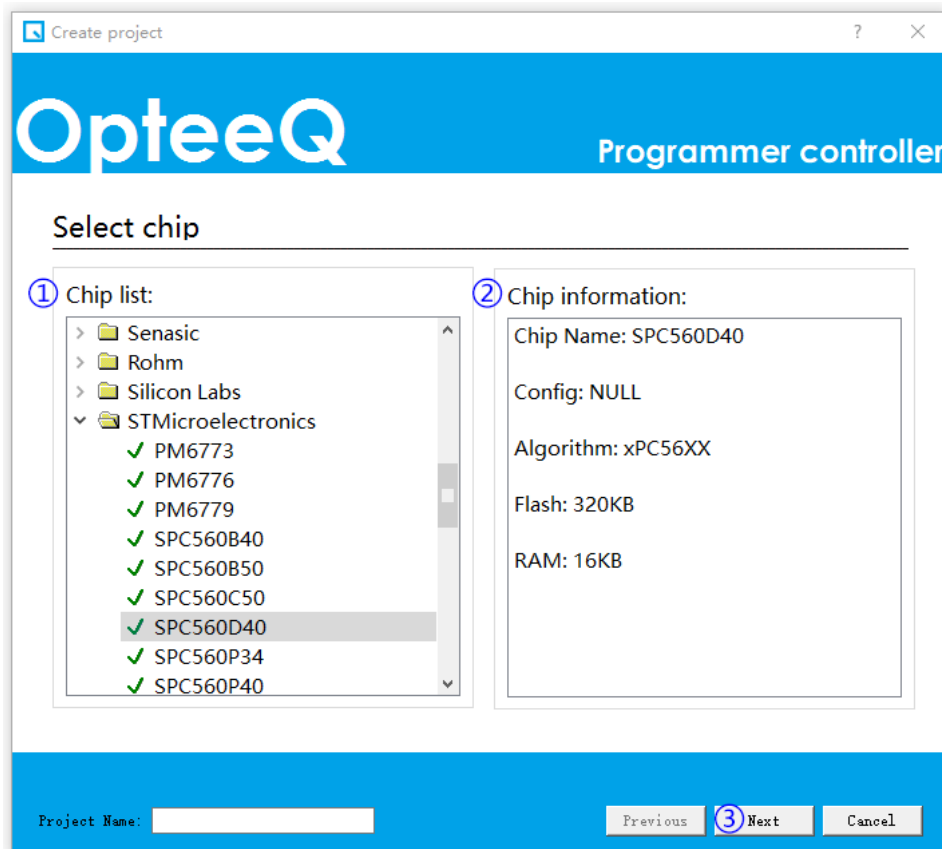

Figure 4.12: Step 2 - Project Creation Interface
2)Step 2: Pop up the "Project Creation Wizard" dialog box, as shown in Figure 4.12. It is needed to select a target chip to be programmed in the chip list (as shown in Figure 4.12-①).
Show the information of the corresponding chip after a target chip is selected (as shown in Figure 4.12-②).
Click "Next" after confirmation (as shown in Figure 4.12-③).